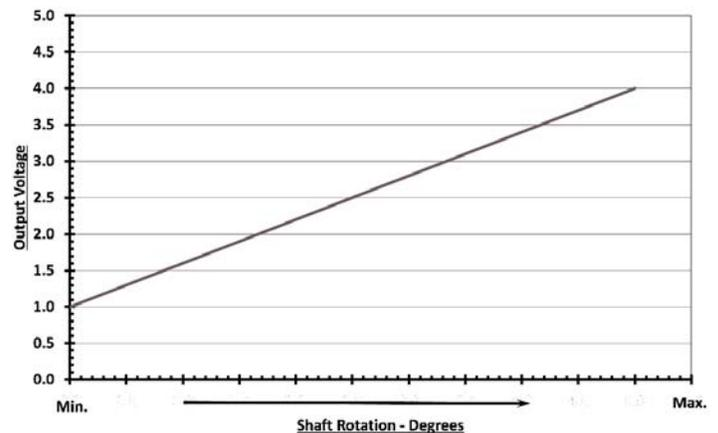
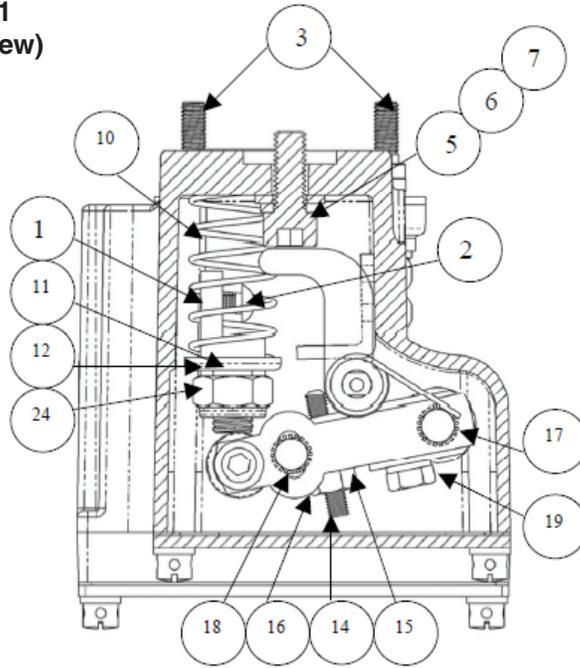
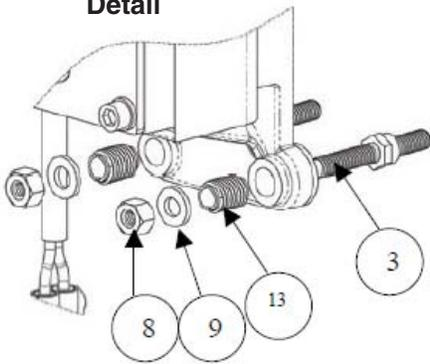

Fig. 1
Fig. 2
Fig. 3
1. The mounting surface of the pump must be clean. Attach the rack link (1) to the left hand side of the fuel rack with an M5 x 10mm screw (2) (that includes a patch of adhesive) (Fig.1). Tighten the screw to 3 – 4 N•m so that the link is aligned axially on the rack.
2. Remove the lower screws of the bearing retainer plate and replace them with the mounting retainers (3) (Fig.1, 2 & 3). Attach the mounting retainers with the shorter end thread into the pump and torque to 9 N•m.
3. Insert adjusting sleeve screws (13) (Fig.2) into threaded lower mounting holes on the actuator. Temporarily place the actuator over the rack and mounting retainers and onto the pump face. Check that the actuator is flat and it contacts both the pump face and the shoulders of the mounting retainers. If necessary, adjust the screws (13) (Fig.2). The upper and lower mounting points of the actuator must be equally supported. Remove the actuator from the pump.
4. Remove both of the actuator covers. DO NOT remove the lever (16) (Fig.1) from the actuator shaft. Place the O-ring seal into the groove (4) (Fig.3) on the mounting face of the actuator. Apply a small amount of grease to the O-ring to hold it in place.
5. Swing the armature out of the actuator so that the lever (16) (Fig.1) is out of the way. Guide the actuator over the rack and onto the lower mounting retaining studs (3) (Fig.1, 2 & 3). Attach the top of the actuator to the pump with the M8 x 16mm socket head screw (5) (torque to 29 N•m), lock washer (6) and flat washer (7) (Fig.1). Use M6 hex nuts (8) and flat washers (9) to secure the lower position of the actuator (Fig.2 & 3). Torque the nuts to 9 N•m.
6. Pull on the rack so that it is as far out of the pump as possible. Check that it moves freely. Place the return spring (10) over the rack. Place the spring retainer (11), the shut-off plate (12), and the M10 locking nut (24) over the threads on the rack link (1) (Fig.1). The flats on the shut-off plate (12) must engage the flats on the link (1). Tighten the nut to 6 – 8 N•m and insure that the shut-off plate is vertical and secure.
7. Test the engagement of the shut-off mechanism with the rack linkage. Swing the lever back into the actuator. Push on the armature to ensure that the rack linkage operates smoothly and returns immediately when released. Reattach the lower actuator cover (23) and tighten the screws (20 & 22) (Fig.3) to 2 – 3 N•m.
8. Loosen the mounting screw (17) and the fastener screw (18) so that the lever (16) can be adjusted in its slot (Fig.1). Adjust the lever so that the bearing pushes the rack 0.5 - 0.7 mm away from its stop position. Hold the lever in this position and tighten the screws (18) and (17) (Fig.1) to 7 N•m. The rack is now adjusted. Confirm that the operating lever screw (19) (Fig.1) is tightened to 13 N•m. Inspect the assembly to make sure all screws are tight.
9. The lever has a maximum fuel adjustment set screw (14) (Fig.1). This screw is used to restrict the fuel rack from 1 to 14.5 mm. With the fuel pump operating on the engine, the maximum fuel setting can be set to provide specific horsepower. For the final maximum fuel setting, it is recommended that a thread locking fluid, such as Loctite 243, be applied to the threads of the fuel setting screw. Hold the screw in the required position with the appropriate hex-key and tighten the lock-nut (15) (Fig.1) to 8.0 – 8.8 N•m.
11. With the engine shut down, install the upper chamber cover (21) with the four screws (20 & 22) and flat washers (25) (Fig.3). Note that when installed, the internal lever (16) or its stop screw (14) (Fig.1) must not hit the cover. Tighten the screws to 2 – 3 N•m. Check for any oil leaks. Lock wire the screws (22) (Fig.3) for tamper resistance.